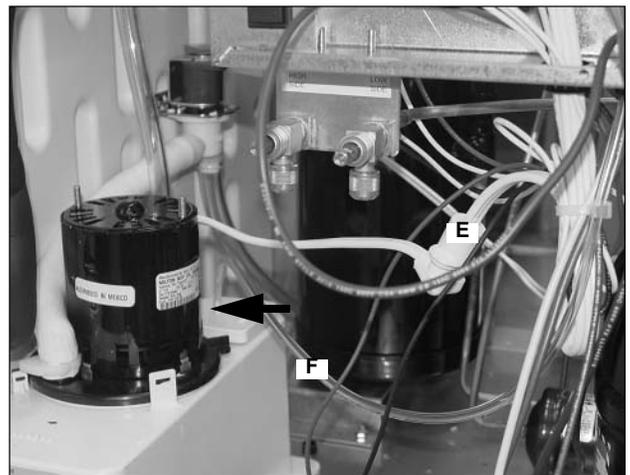

Figure 10.
7. Disconnect the Water Pump plug (E) and Transducer Pressure Hose (F) (Figure 10).